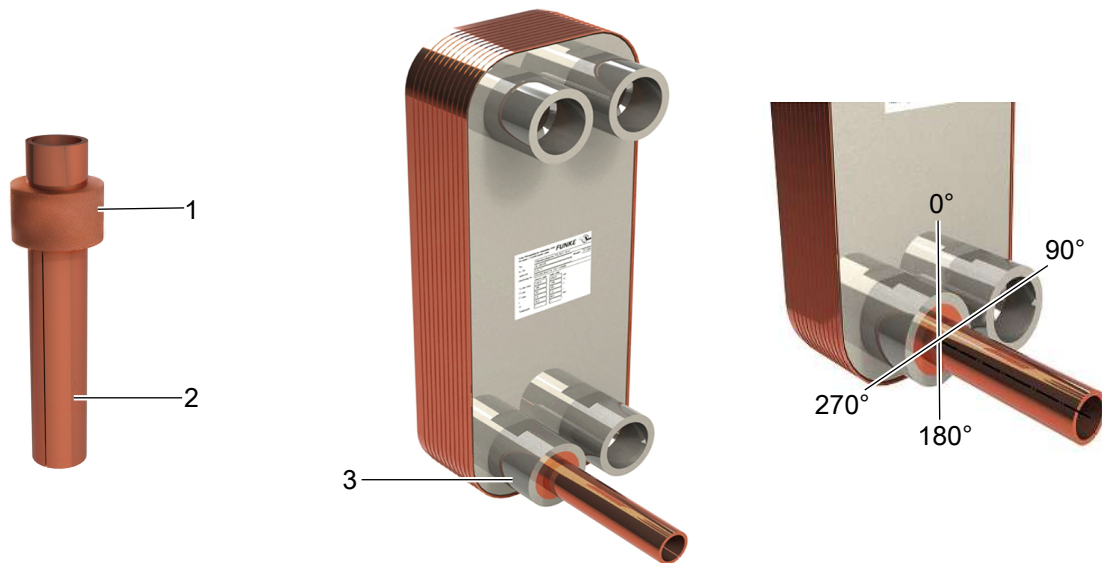

Fig. 12: Installation position, distributor pipes
2. The slit of the lance must be directed downwards (approx. 195° – see ►Fig. 12, p. 28).